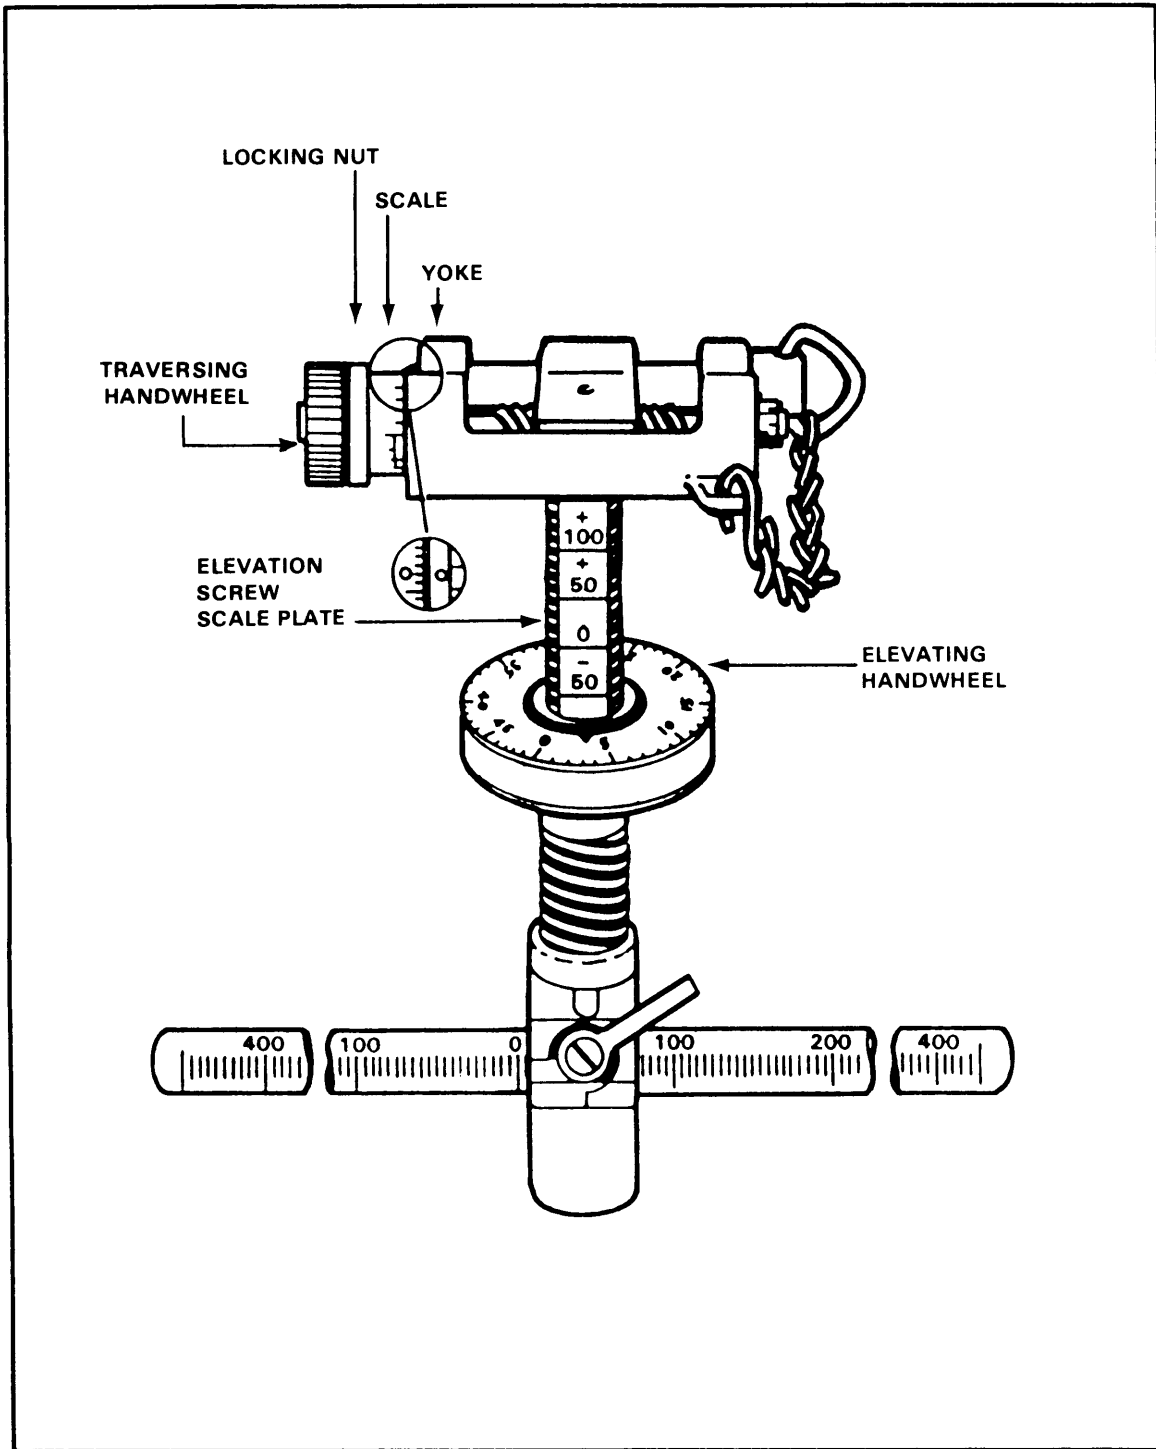

Figure 5-5. Zeroing the T&E mechanism.
a. Zero the T&E. Before the T&E can be used effectively to engage targets, it must be zeroed (Figure 5-5). Zeroing is a simple process if the following method is used:
(1) To zero the traversing handwheel, hold the T&E so the traversing handwheel is on your left as you look at it. Turn the traversing handwheel toward you until it stops. Loosen the locking nut slightly. Align the 0 on the scale with the 0 on the elevating screw yoke. Hold the scale with the 0's aligned, and tighten the locking nut. Make sure the 0's stay aligned. Turn the traversing handwheel two complete revolutions away from you. If doing this at night, count 50 "clicks" away from you.
(2) To zero the elevating handwheel to the upper elevating screw, align the two 0's. Rotate the elevating handwheel up or down until a 0 with a line below it is visible on the upper elevating screw. Position the elevating handwheel so the indicator is pointing at the 0 on the handwheel.